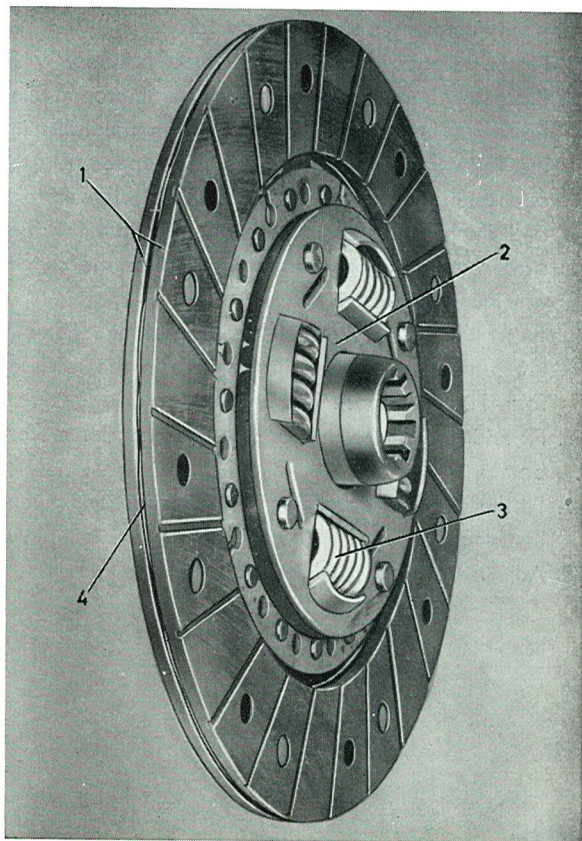

Fig. 4-7. Clutch disc
3. Rivet on the new facings (preferably in a rivet press). N.B. The rivets should be inserted from the side on which the facing lies and riveted up from the opposite direction against the disc. Use every other hole in the facing. After riveting, the facings should be spaced from each other as determined by the indentations on the clutch disc. See Fig. 4-7. This is most important in order to achieve a smooth engagement when starting and driving.